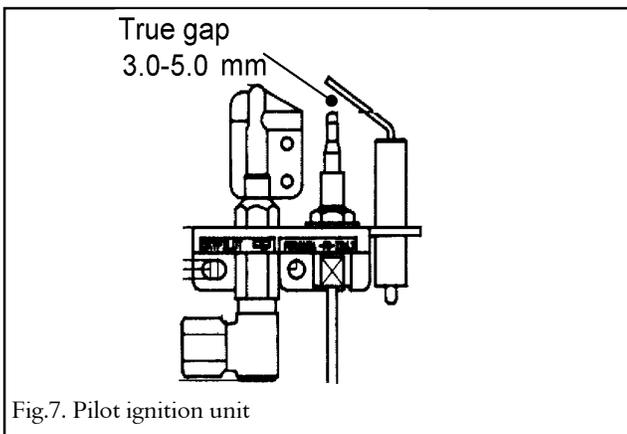

Fig.7. Pilot ignition unit
Sparks should be seen tracking from the electrode pin to the thermocouple tip (see figure 7).
- Check spark gap between electrode wire and thermocouple tip (see figure 7).